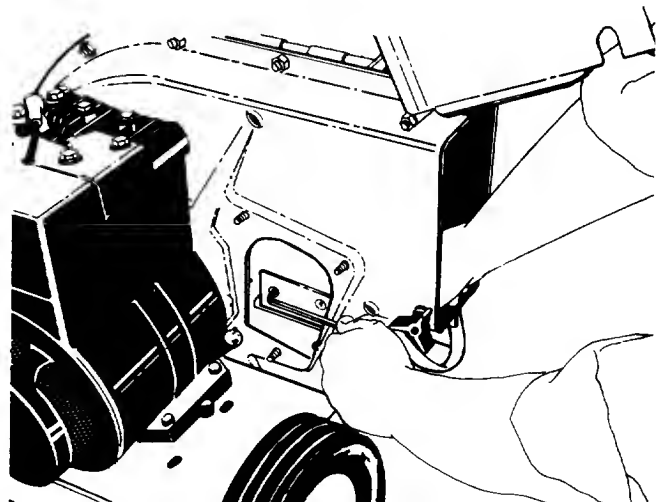

FIGURE 14.
- Rotate the impeller assembly by hand until you locate one of the chipper blades in the chipper chute opening. Remove the blade, using a 3/16" allen wrench on the outside of the blade and 1/2" wrench on the impeller assembly (inside the housing). See figure 14.